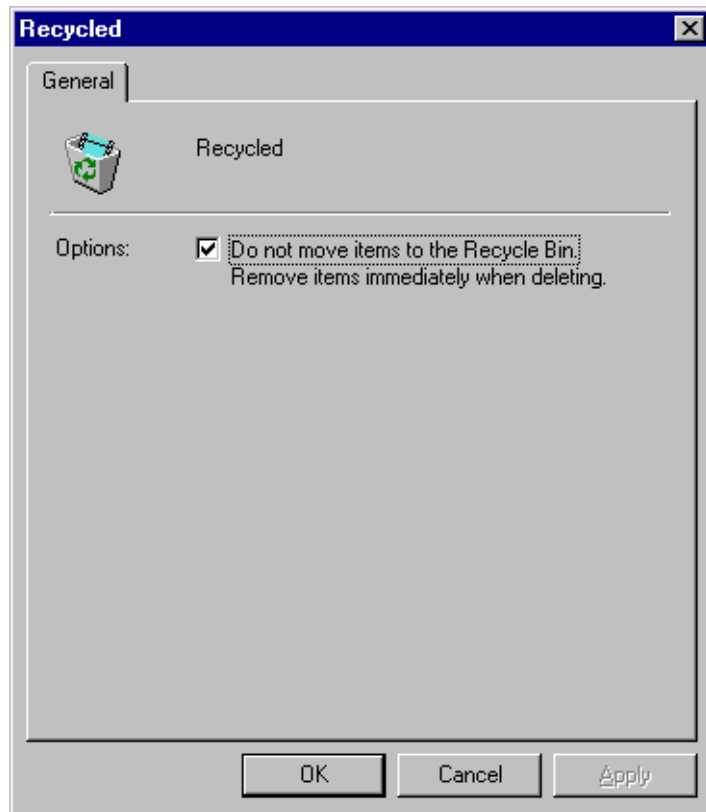

Figure 52. Recycle Bin properties dialog box
2. Choose **Properties** with the right-click or from the **File** menu. The **Recycle Bin Properties** dialog box appears (see Figure 52).